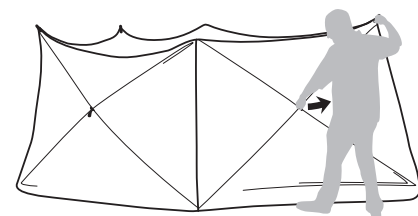

FIGURE 4
4. Proceed by walking around the entire tent, pulling out on each webbing loop until all the side walls are popped out. [**SEE FIGURE 4**]